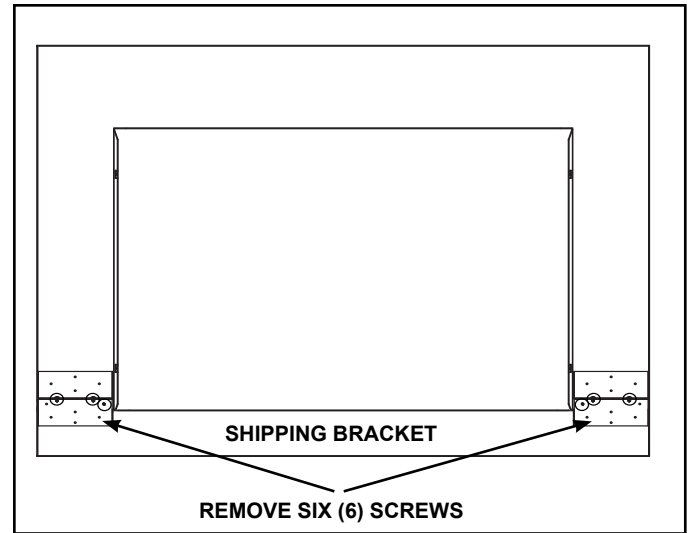

Figure 4.7 Surround Bottom Panel Removal
3. For a 3-sided configuration, remove the surround bottom panel, by removing the six (6) screws attaching it to the surround. See Figure 4.7.
4. If using the 3-sided surround configuration, the surround can be located by sliding the surround over the appliance from the top. See Figure 4.7.